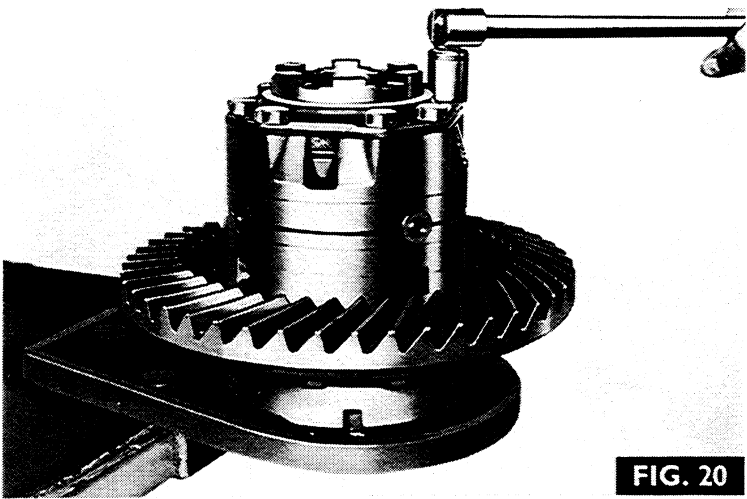

FIG. 20
2. Fit puller 555 and adapter MF 555-2A/1 to the differential bearing cone (39) then pull off the cone.
4. Fig. 20. Place the differential on the adapter as shown, then remove the eight bolts securing the R.H. case (37) and the differential lock coupler cap (38).